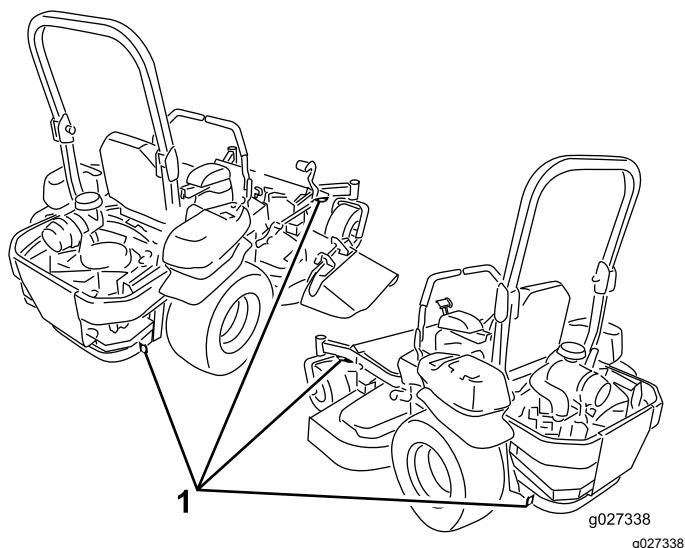

Figure 40
6. Tie down the machine near the front caster wheels and the rear bumper with straps, chains, cable, or ropes (Figure 40). Refer to local regulations for tie-down requirements.